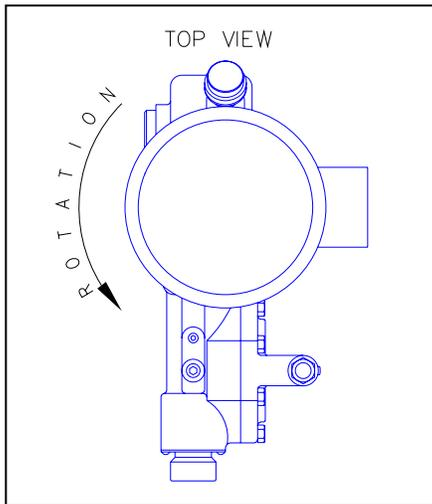

FIGURE 1
- 1.0.9 The electrical supply to the pump must match the motor name plate characteristics. The motor rotation is counter clockwise when viewed from the top of the motor, looking down on the pump. (See Figure 1).
Please note Figure 1, indicating the correct rotation. (An arrow on the gear box also indicates proper rotation.) Operation with the incorrect rotation will damage the pump and motor.